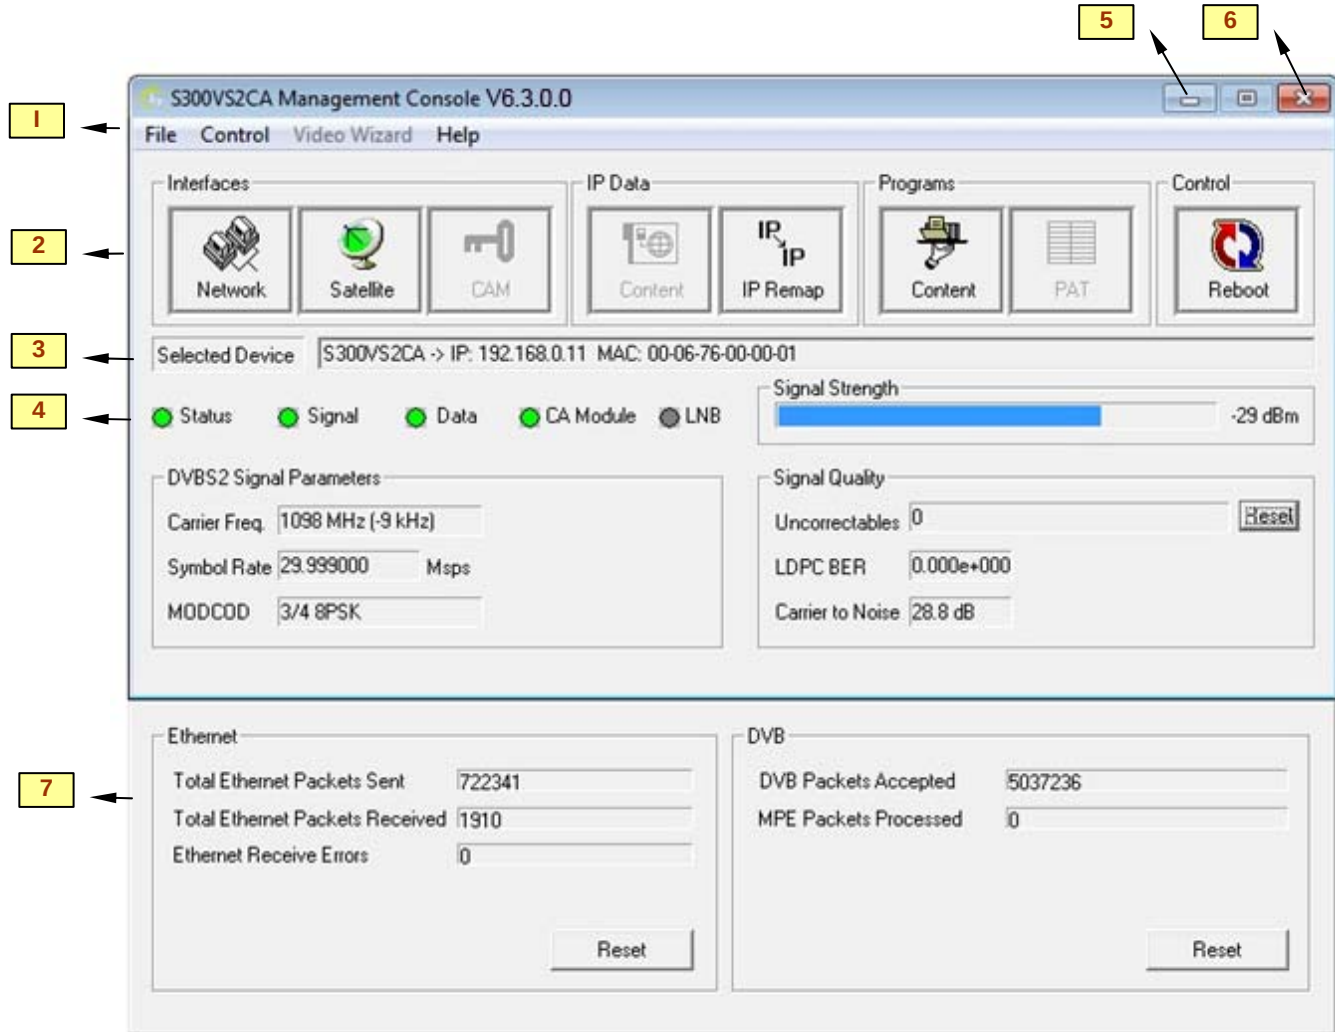

Figure 5 - S300 Console Main Screen for DVB-S2 Operation
- 5- After successfully entering the password, you will be presented with the S300 Console main screen (as shown in Figure 5 below).
Figure 5 shows a typical Main Screen setting when the S300 is operating in DVB-S2 mode. The screen provides configuration tabs as well as status information on the S300 operation. At a glance, we can determine a great deal about the status of the S300 operation, including: